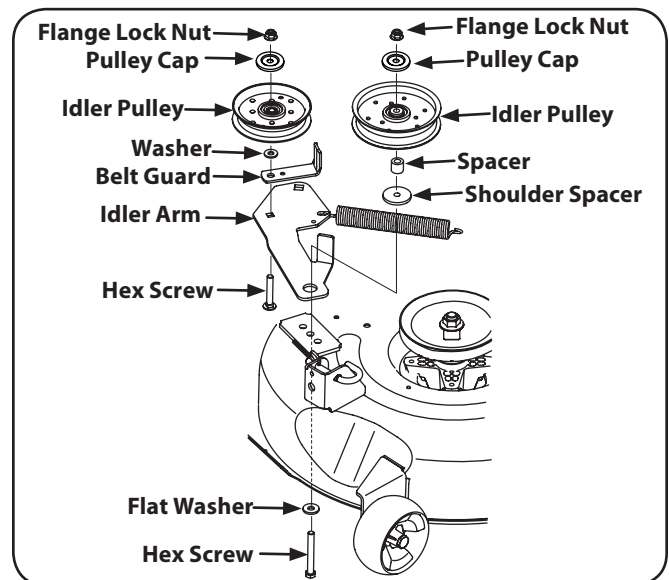

Figure 7-10
3. Remove the two idler pulleys by removing the hex screws and flange lock nuts that secure them to the deck and the idler arm. See Figure 7-10. Do not lose any of the hardware when removing the hex screw and flange lock nut.
- Place the belt around the idler pulleys removed in step 3 with the "V" side facing in. Once in place, reinstall all the hardware and tighten the flange lock nut to secure the assembly. See Figure 7-10.
- Route the belt as shown in Figure 7-10 and then reinstall the deck.